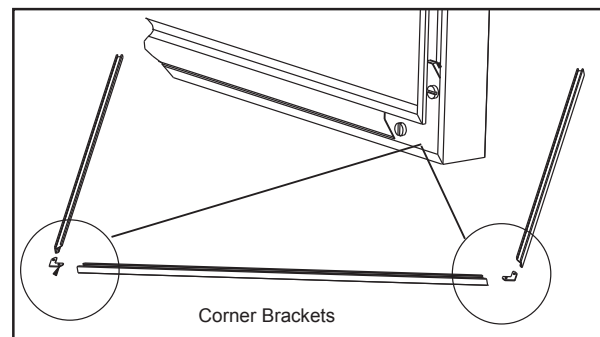

Figure 42.3
4. Using a standard flat screw driver tighten the corner brackets. **Figure 42.3.**